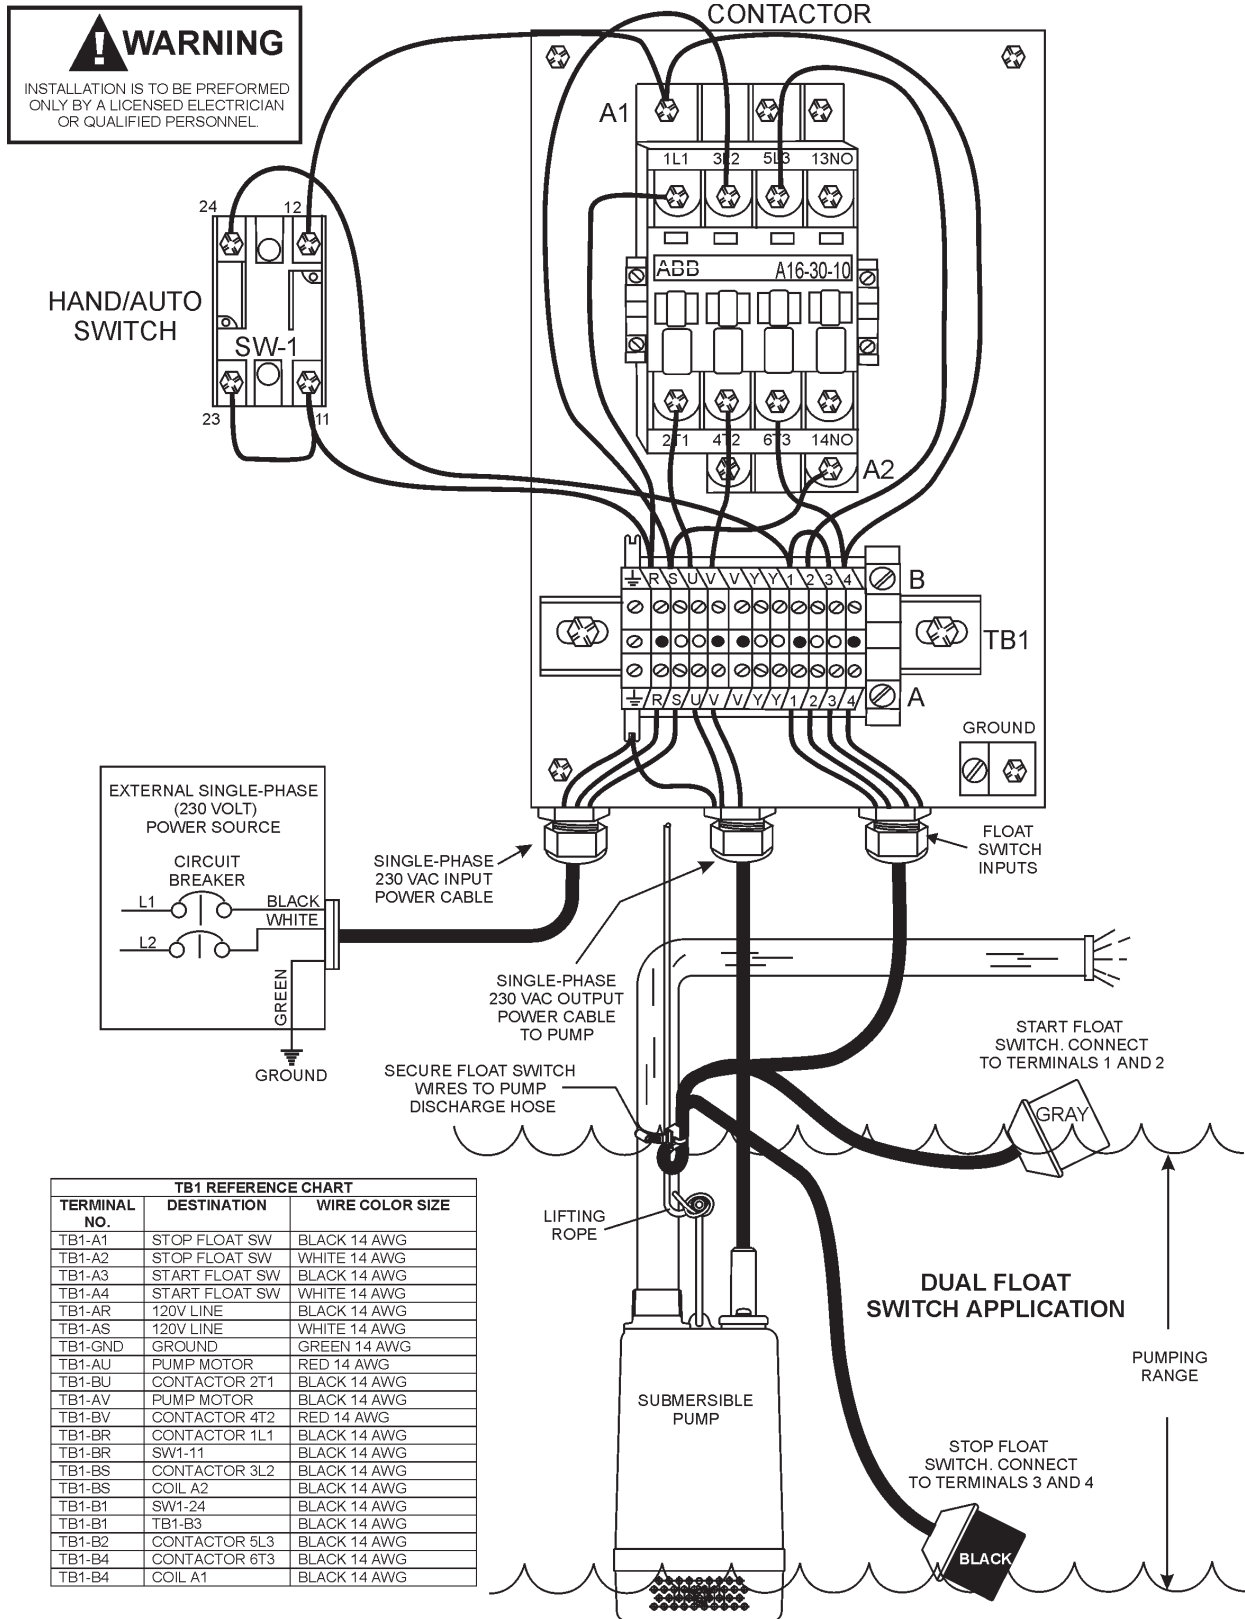

Figure 8. CB6 Control Box and Dual Float Switch Application Diagram
1. Connect a 2-inch hose to the discharge port on the pump as shown in Figure 8. Make sure that the hose is attached correctly to the discharge port.